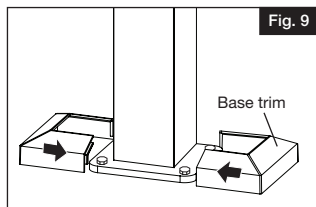

Fig. 9
- f. Tighten bolts, install base trim sections around post. Take one side of base trim and push plastic plugs through the hole underneath. Take second half of base trim and push together (Fig. 9).